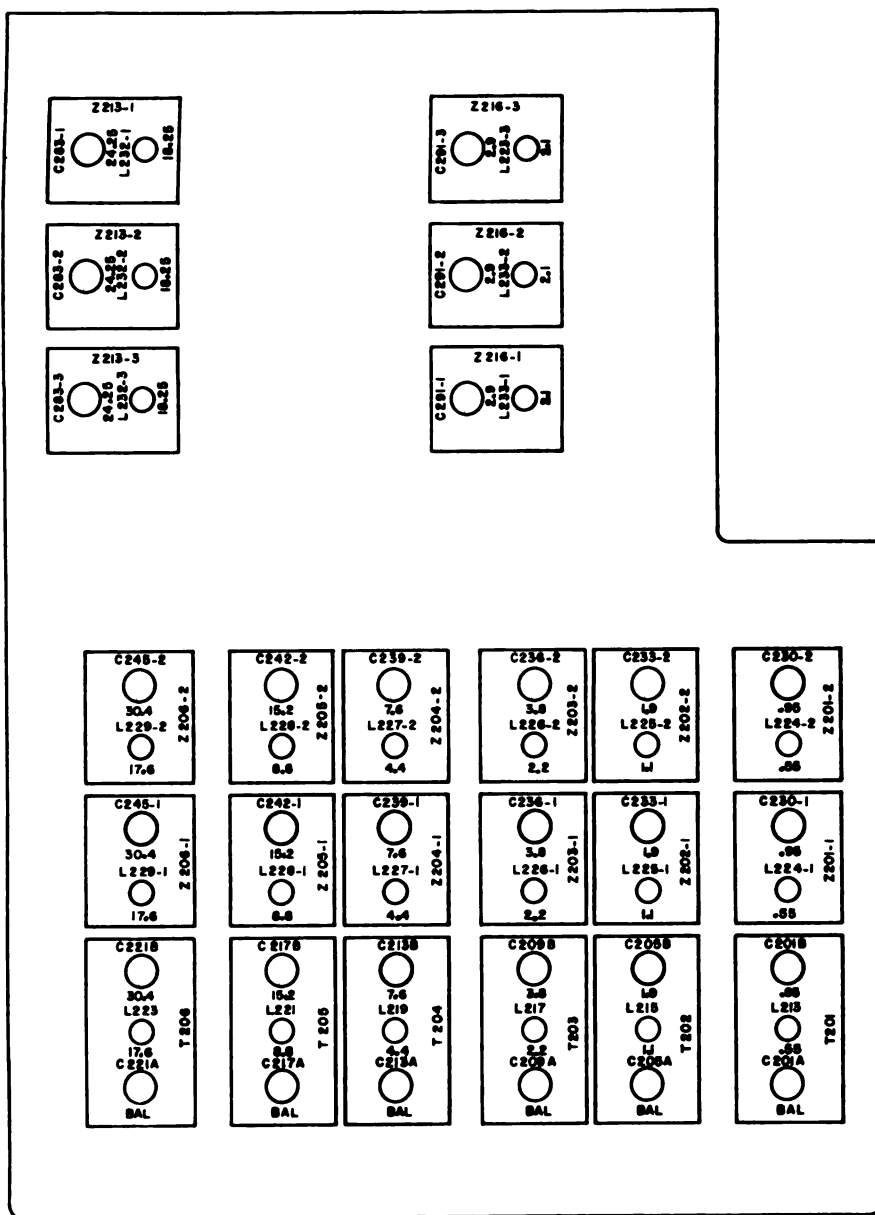

Figure 72. Rf and variable if. alignment points.
75. Second Variable If. Alignment (fig. 72)
Remove the top protective cover, located over the alignment points, from the rf subchassis, a copy of figure 72 is located on this cover. Use this illustration to locate alignment points.
(fig. 72)